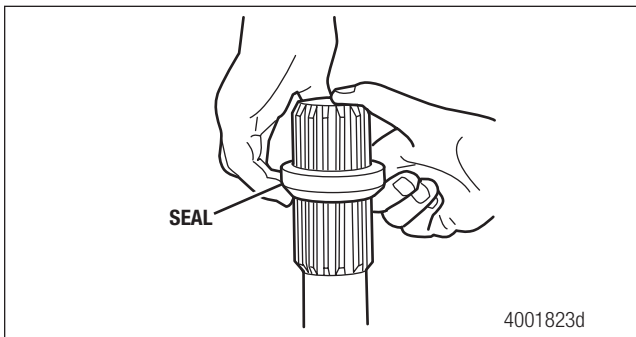
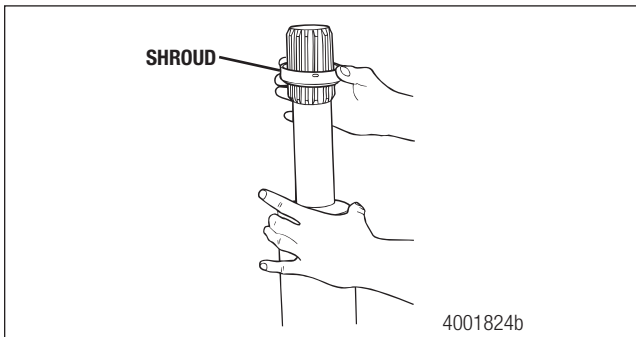

Figure 5.8
Figure 5.9
5. Remove the seal and shroud from the slip shaft. Figure 5.8 and Figure 5.9.